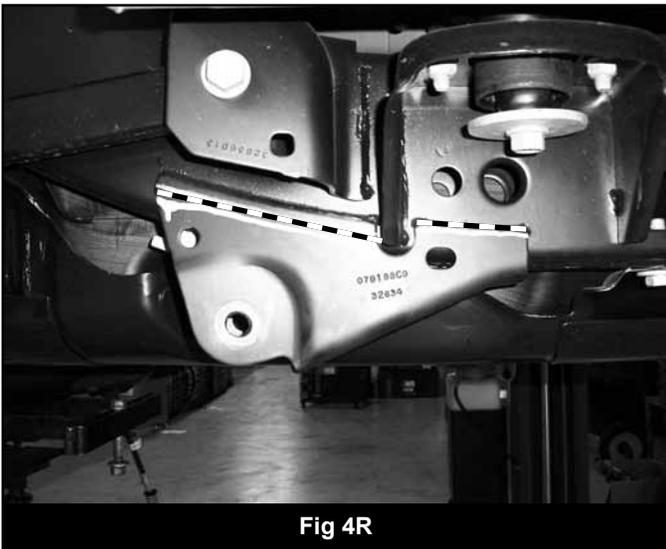

Fig 4R
16. The factory LCA mount must be cut off to provide clearance for the new arms under suspension compression. Mark and cut the LCA mount at frame. Cut off bottom and outside of bracket. The inside wing of the bracket can remain intact on the passenger's side, the driver's side can be completely removed. Note: Take care not to cut into the frame. (Figures 4R/5R)